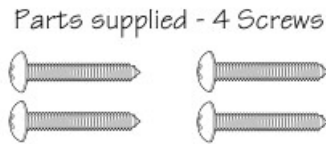

Figure 10
5. Secure the drawer with the 4 screws supplied. See Figure 10.